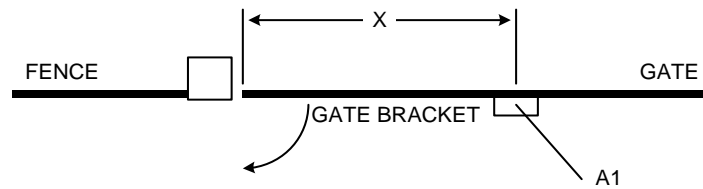

Figure 19
2. Once the gate bracket has been attached to the gate, close the gate fully and mark a point on the ground directly under the center of the mounting bracket. Label this point A1 (Figure 19).